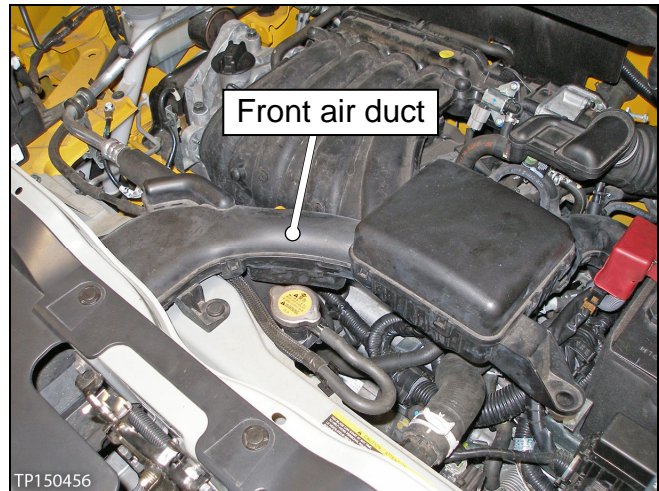

Figure 3
2. Remove the front air duct (see Figure 3).